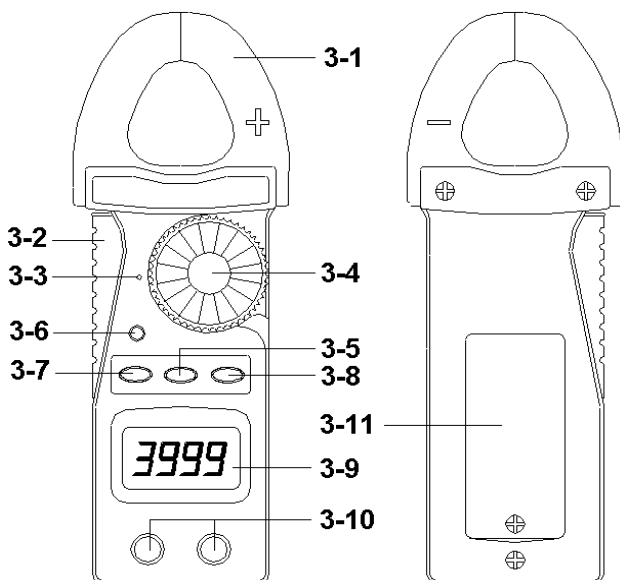

Fig. 1
- 3) If measure " DCV ", select the " Function rotary switch " (3-4, Fig. 1) to the " V " position then push the " FUNC. button " (3-7, Fig. 1) for display show "  ".
- 4) If measure " ACV ", select the " Function rotary switch " (3-4, Fig. 1) to the " V " position then push the " FUNC. button " (3-7, Fig. 1) for display show "  ".
- 6) Under the operation of " auto range " mode, push the " Range button " (3-5 Fig. 1) will hold the range.
- 3) Select the " Function rotary switch " (3-4, Fig. 1) to the " Ω " position then push the " FUNC. button " (3-7, Fig. 1) for display show " Ω ".
- 5) Under the operation of " auto range " mode, push the " Range button " (3-5 Fig. 1) will hold the range.
- 3) Select the " Function rotary switch " (3-4, Fig. 1) to the
- "  " position then push the " FUNC. button " (3-7, Fig. 1) for display show "  ".
- 3) Select the " Function rotary switch " (3-4, Fig. 1) to the "  " position then push the " FUNC. button " (3-7, Fig. 1) for display show "  ".
- 1) Select the " Function rotary switch " (3-4, Fig. 1) to the " 600A " position then push the " FUNC. button " (3-7, Fig. 1) for display show "  ".
- 2) Press the " Trigger " (3-2, fig. 1) to open the " Current Sensor Jaws " (3-1, Fig. 1) & clamp on the measure conductor only.
- 4) Under the operation of " auto range " mode, push the " Range button " (3-5 Fig. 1) will hold the range.
- 4) Under the operation of " auto range " mode, push the " Range button " (3-5, Fig. 1) will hold the range.
- * **Push the " REL. button " (3-8, Fig. 1), the " AUTO " indicator will disappear instead of the " REL. " mark. In the same time, display will change to zero value.**
- * **After push the " REL. button ", the meter will under the manual mode (not auto range). If intend change the DCA range (400A to 600A, or 600A to 400A), then should push the " Range button " (3-5, Fig. 1).**
- 3) Select the " Function rotary switch " (3-4, Fig. 1) to the " Hz " position, LCD will show the mark of " Hz " .
- 1) During the measurement of ACV, ACA, DCV, DCA & ohm, the circuit will memorize the last measured values if push the " REL. button " (3-8, Fig. 1) at once, then LCD will show zero value & a " REL. " indicator.
- 1) During the measurement, pushing the " Hold button " (3-6, Fig. 1) once a while will freeze the measured value & the LCD will indicate " HOLD " symbol.